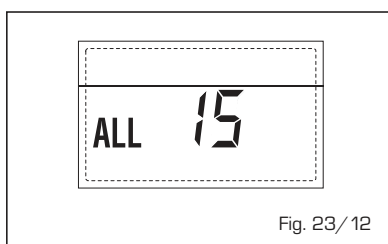

Fig. 23/12
- **ANOMALÍA SONDA EXTERNA "↑↓ PARRPDEANT" (fig. 23/13)**